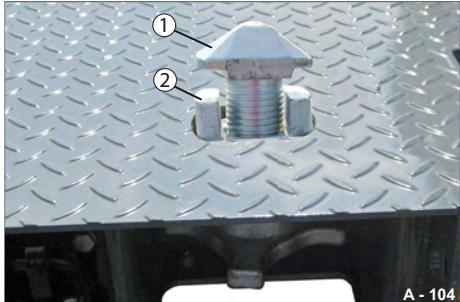

Fig. 157 Locking point extended
- ▶ Raise and rotate the clamping nuts and the pivot pin (Fig. 157/1) simultaneously. The guide bush (Fig. 157/2) comes out the top.